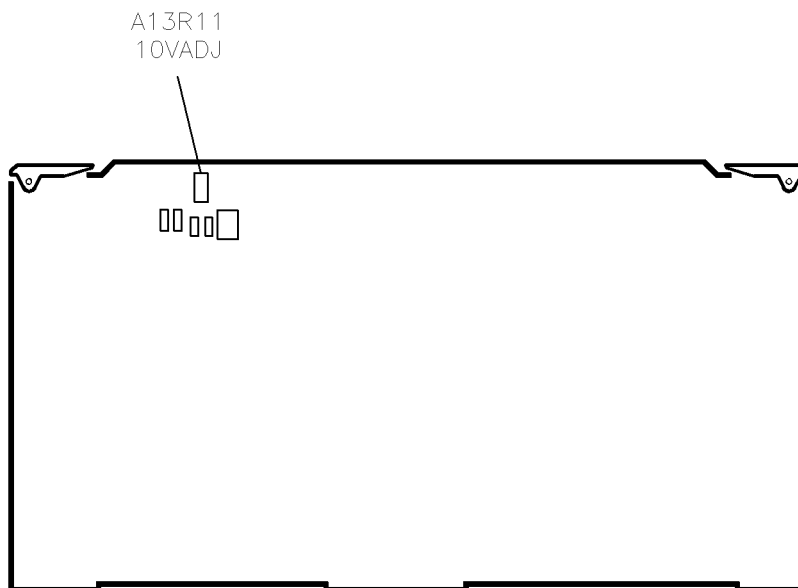

Figure 3-7. YO Driver +10 V Reference Adjustment Location
4. Adjust A13R11 (see Figure 3-7) to center the “needle” on the display.